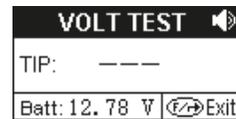
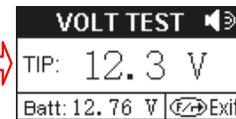

FIG. 17
FIG. 18
- Results Display While in Volt Test mode, you will notice that the Battery voltage (power source) is shown in the display (example: Fig. 17 below). This is very helpful because if tests perform on circuits sharing the same common ground, it can tell whether resistance is present in the circuits when compared with its Tip volts readout (example: Fig. 18 below.)